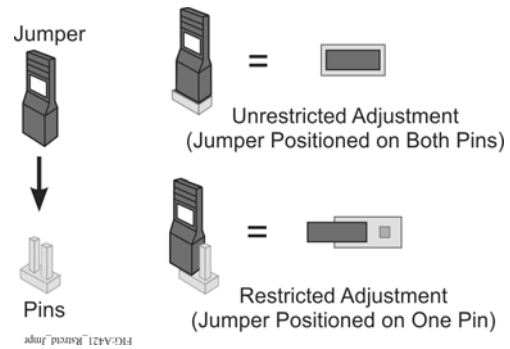

Figure 10: Repositioning the Jumper to Restrict Control Adjustment
1. Ensure that the A421 is not in the restricted mode (the jumper is positioned on both pins). See Figure 10.
4. Disconnect power to the control and reposition the jumper to one pin (Figure 10). Reconnect power.